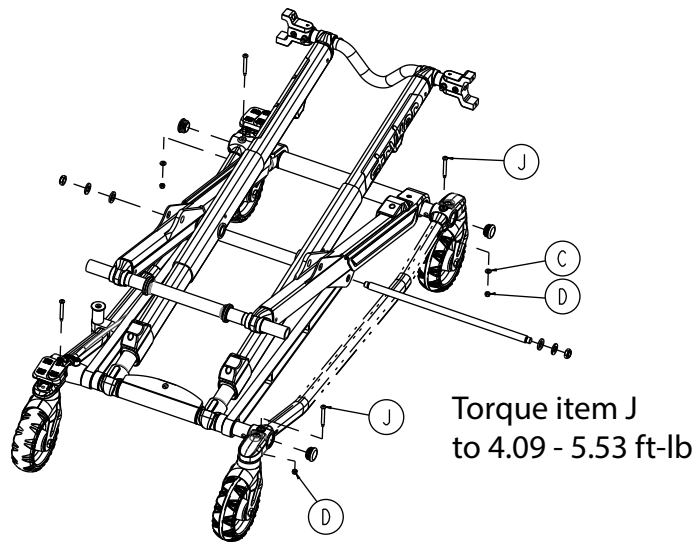

Figure 69 – Remove the base tube assembly
8. Using a T27 Torx driver and a 3/8" combination wrench, remove the two caster mount bolts (J), washers (C), and fiberlock nuts (D) that secure the base tube assembly to the cot (Figure 69). Save all parts.